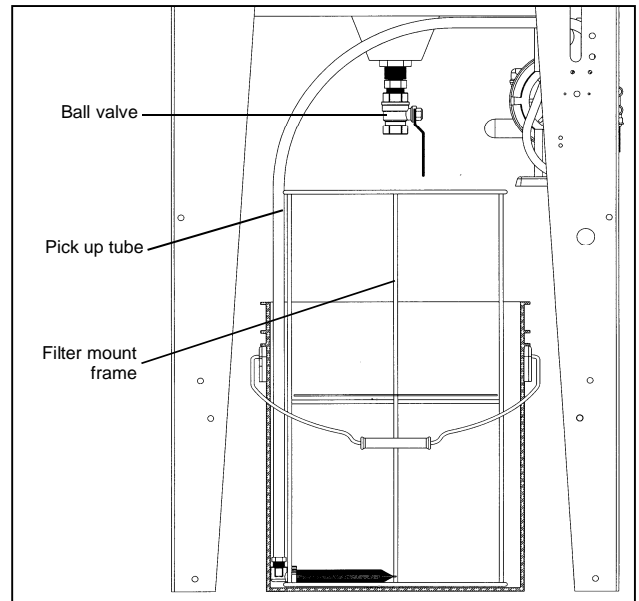

Fig. 1
- 2) Fill the bucket with water until the water or cleaning solution until the level reaches the bottom of the filter support cross arms. See Fig. 1